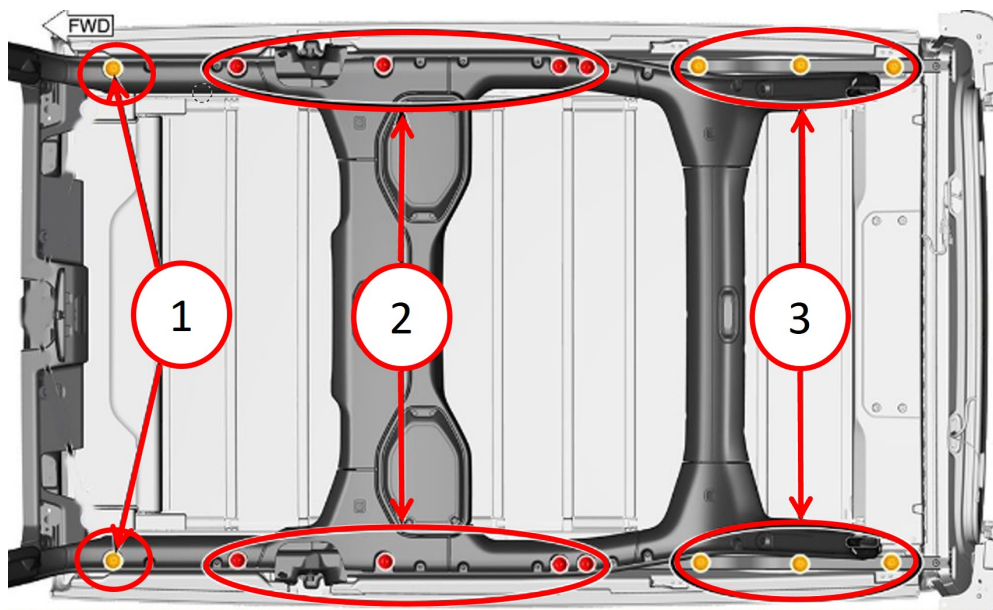

Fig. 1
4. Replace all 16 screws.** (Fig. 1) .
NOTE: Use P/N 06513816AA for Rear Aperture and Front screws (Yellow Locations (Fig. 1)) and P/N 06513815AA for Body screws (Red Locations (Fig. 1)).